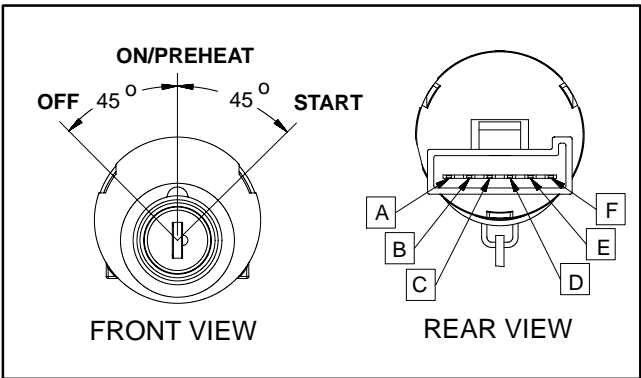

Figure 5
- 2. With the use of a multimeter (ohms setting), the switch functions may be tested to determine whether continuity exists between the various terminals for each switch position. The ignition switch terminals are marked as shown in Figure 5. The circuitry of this switch is shown in the chart below. Verify continuity between switch terminals.